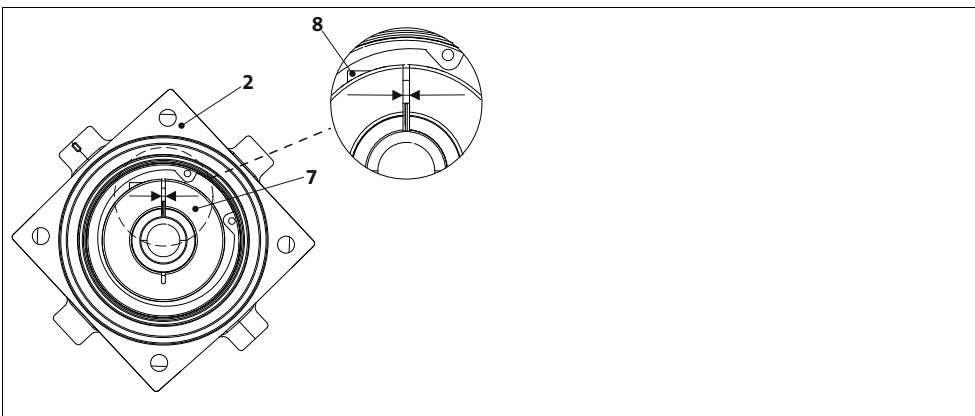

Fig. 7 Assignment: Motor shaft, clamping ring and mounting hole
3. Align the slots of the gearbox drive hollow shaft and the clamping ring to each other and to the mounting hole (Fig. 7).